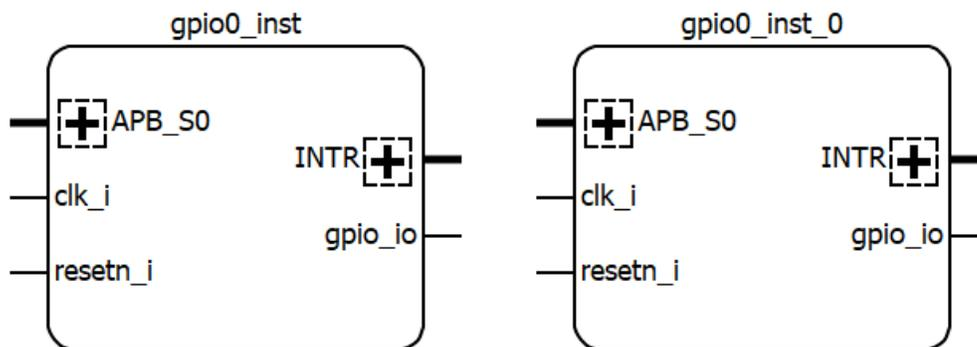

Figure 2.34. Duplicate a Module
- Select the desired module and click **Clone** . Or, right-click on the module and choose **Clone** . A copy of the schematic block appears with a new instance name (Figure 2.34).